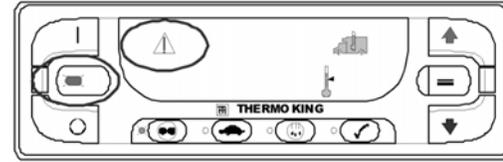

Figure 31: Display, Preferred Method for Manually Switching from Electric Mode to Diesel Mode
3. Press the Standard Truck HMI Control Panel ON Key to turn the unit on. The Hourmeters display will briefly appear and then the screen will appear as shown in Figure 31.
IMPORTANT: When the display shown in Figure 31 is present, do not press the Standard Truck HMI Control Panel OFF Key to turn the unit off. Press the Standard Truck HMI Control Panel ON Key again to clear Alarm Code 91 Check Electric Ready Input and turn the unit back on in Diesel Mode.
If the Standard Truck HMI Control Panel OFF Key is pressed when the display shown in Figure 31 is present, the unit will turn off and the display will be blank.